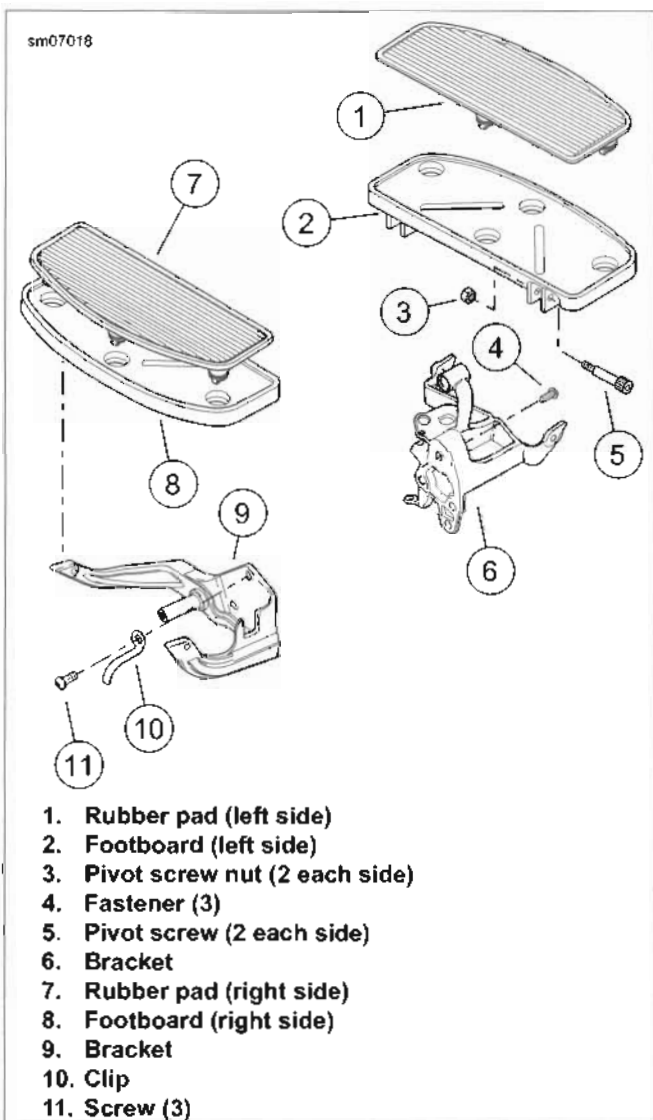

Figure 2-125. Rider Footboards (Typical)
1. See Figure 2-125. Remove pivot screws (5) and nuts (3).
1. See Figure 2-125. Install footboard and secure with pivot screws (5) and nuts (3).